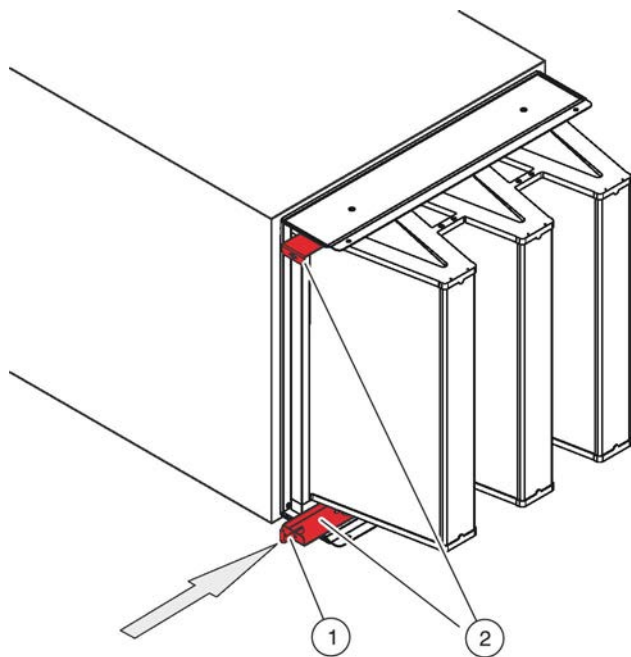

Fig. 62: Pushing the clamping rails in
7. ▶ Use the special key (Fig. 62/1) to push the clamping rails (Fig. 62/2) in as far as they will go.